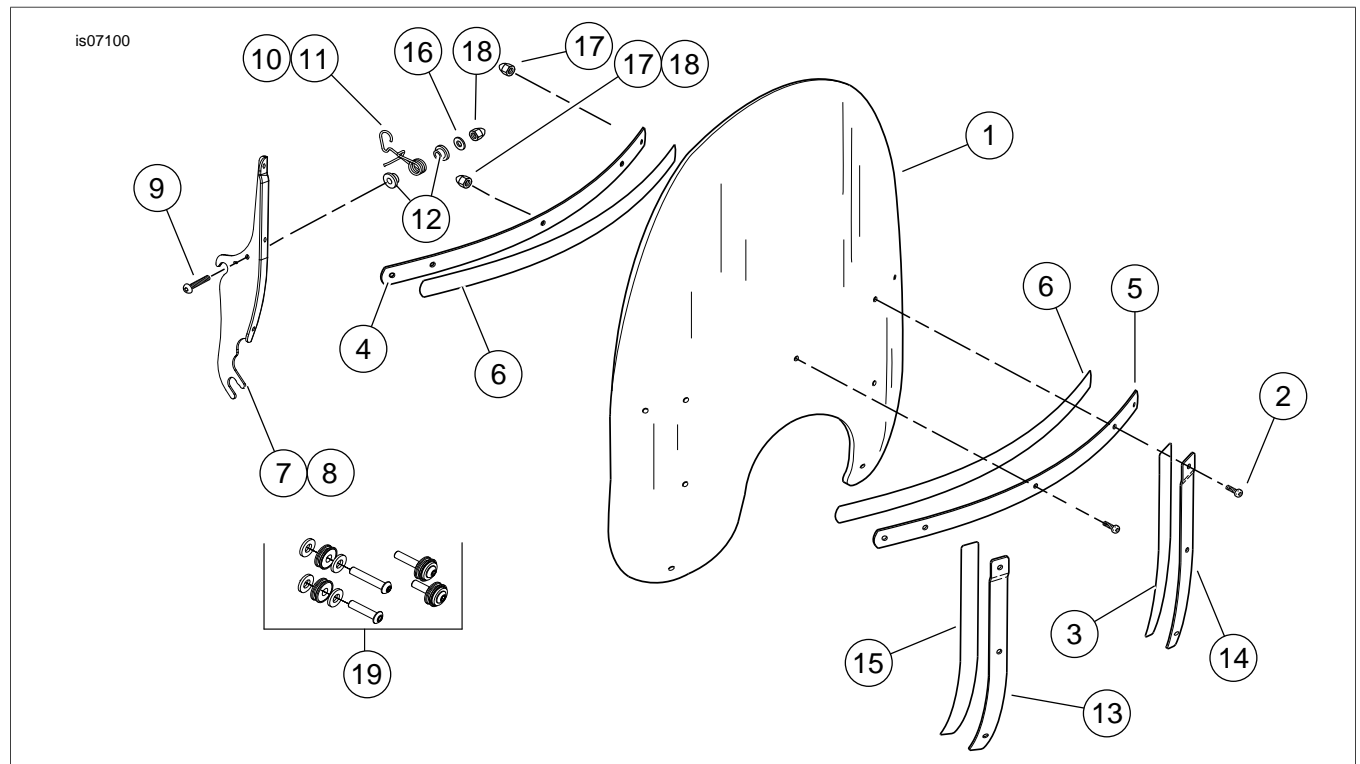
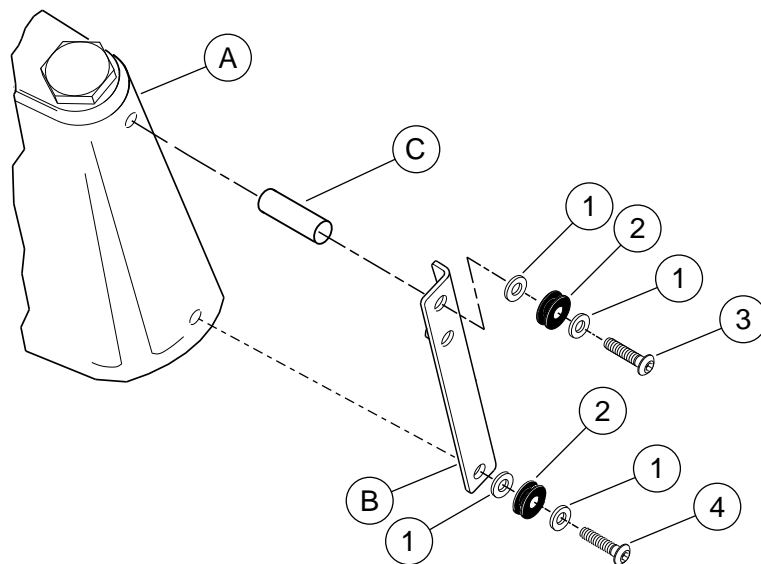

Figure 1. Service Parts: Windshield Kits
Figure 2. Service Parts: Hardware Kit
See Figure 1 and Table 1, Figure 2 and Table 2.
2. Figure 2 and Table 2. Remove and discard the original bottom fog/passing lamp bracket screw (4) and washer (1).
3. Place a new flat washer (1), bushing (2) and flat washer (1) on a 1-3/8 inch long screw (4) from the kit. Thread the screw through the lower hole in the fog/ passing lamp bracket and decorative fork cover, and into the triple clamp. Tighten the screw to 8 ft-lbs (10.8 Nm).
5. Place a flat washer (1), bushing (2), and flat washer (1), on a screw (3) from the kit. Place the screw through the top hole of the fog/passing lamp bracket and through OE spacer. Tighten screws (8) to 8 ft-lbs (10.8 Nm).